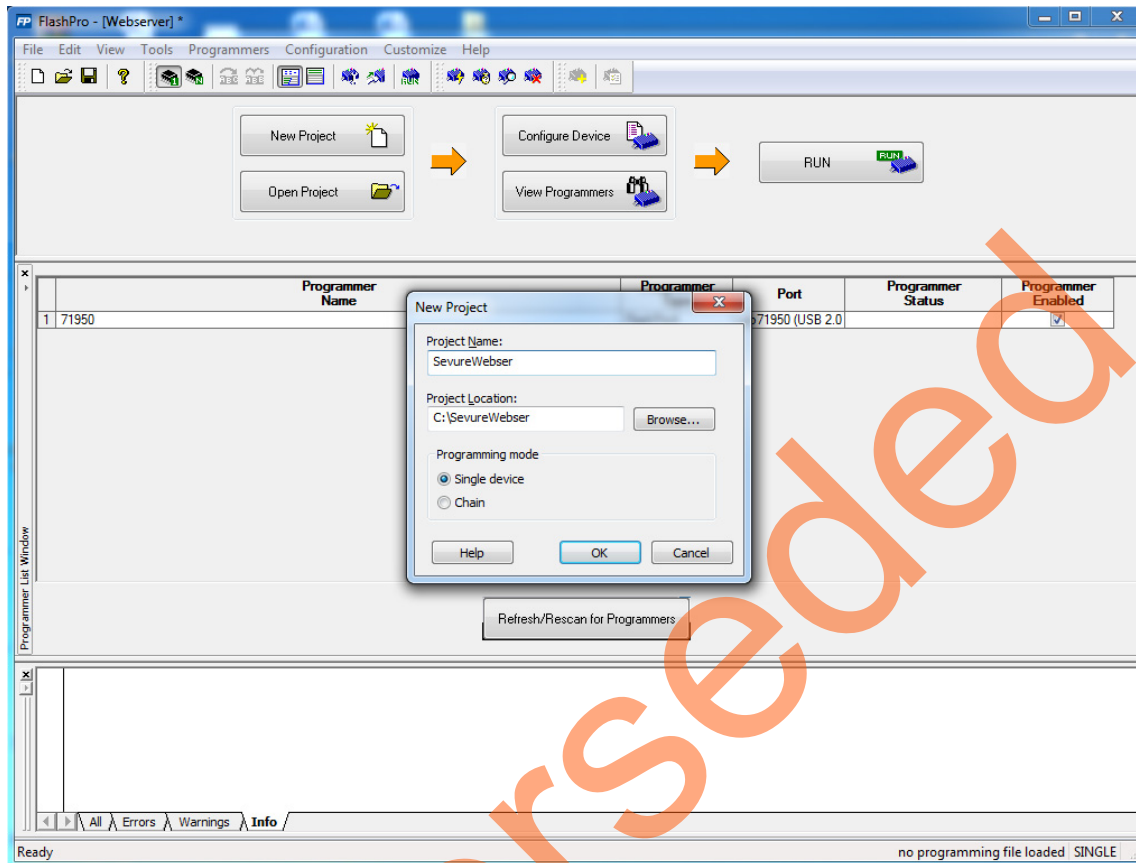

Figure 9 • FlashPro New Project
6. In the **New Project** window, type the project name as shown in Figure 9.